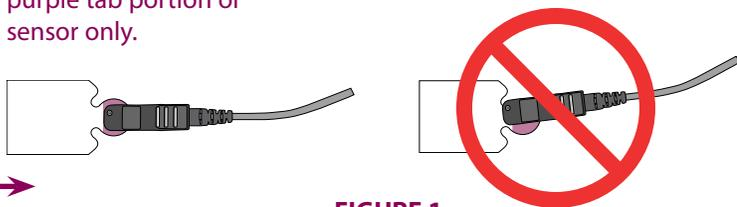
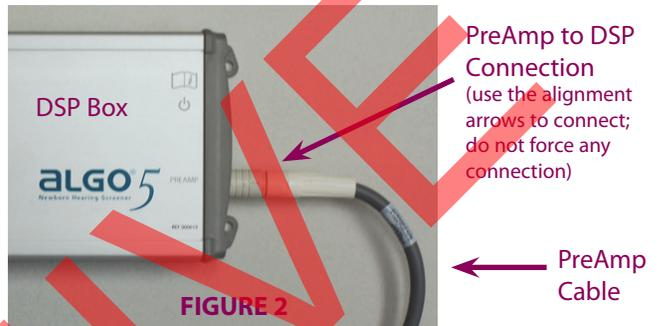

FIGURE 1
FIGURE 2
- Check connections between the tab clips and the sensors (Refer to Figure 1); align the clip so as the wire is closest to the baby's skin. Check the connection between the sensor cable (PCA 5) and the preamplifier (Refer to Figure 2).
- a. Ensure correct connections between the clips and sensors (Refer to Figure 1 on reverse side).